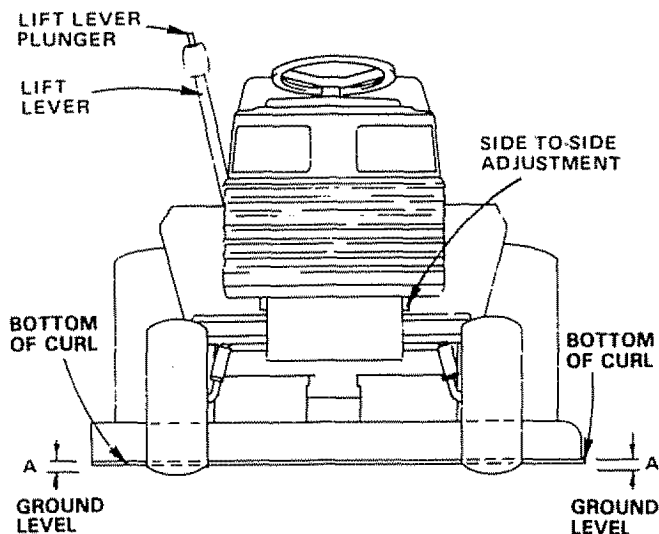

FIGURE 37
- Measure height from bottom of curl to ground level at front of mower. Distance "A" should be the same on both sides of mower (Fig. 37).